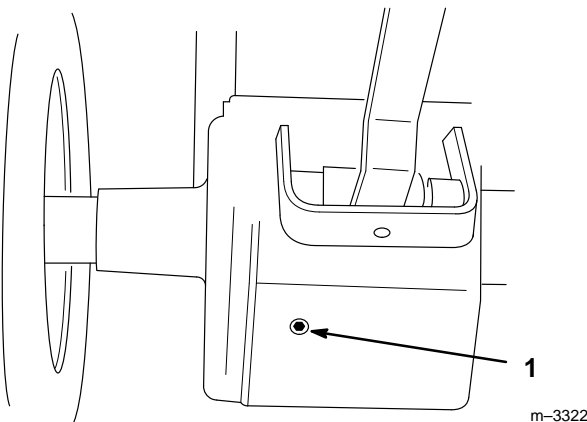

Figure 50
4. Place a pan below the transaxle drain. Open the drain by removing the plug (Fig. 50).